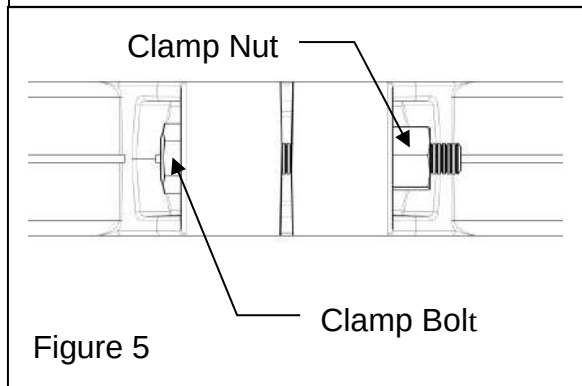

Figure 5
- Using 3/4" wrenches, loosen and remove the clamp nut and the clamp bolt. (Fig 5)